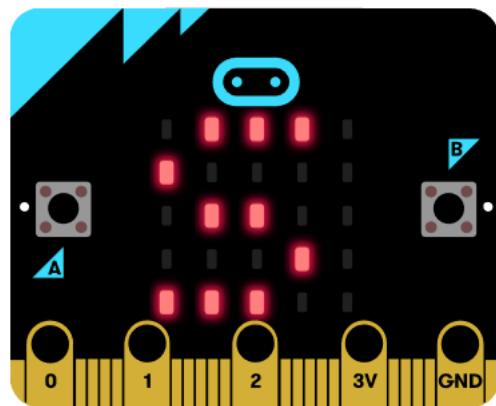

Figure 1.1
6.1 First, we need to download the microbit-Skilled-remover-Android-Bluetooth-APP-control.hex to micro:bit, you can see that the micro:bit dot matrix shows an "S" as shown in Figure 1.1, which is the state that Bluetooth is not connected.